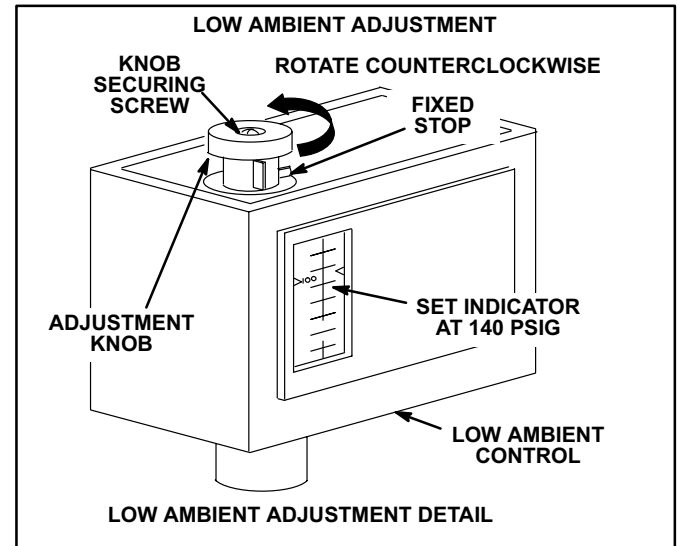

FIGURE 43
- 1 - Loosen knob securing screw to allow knob stop to pass over fixed stop on control (see figure 43).